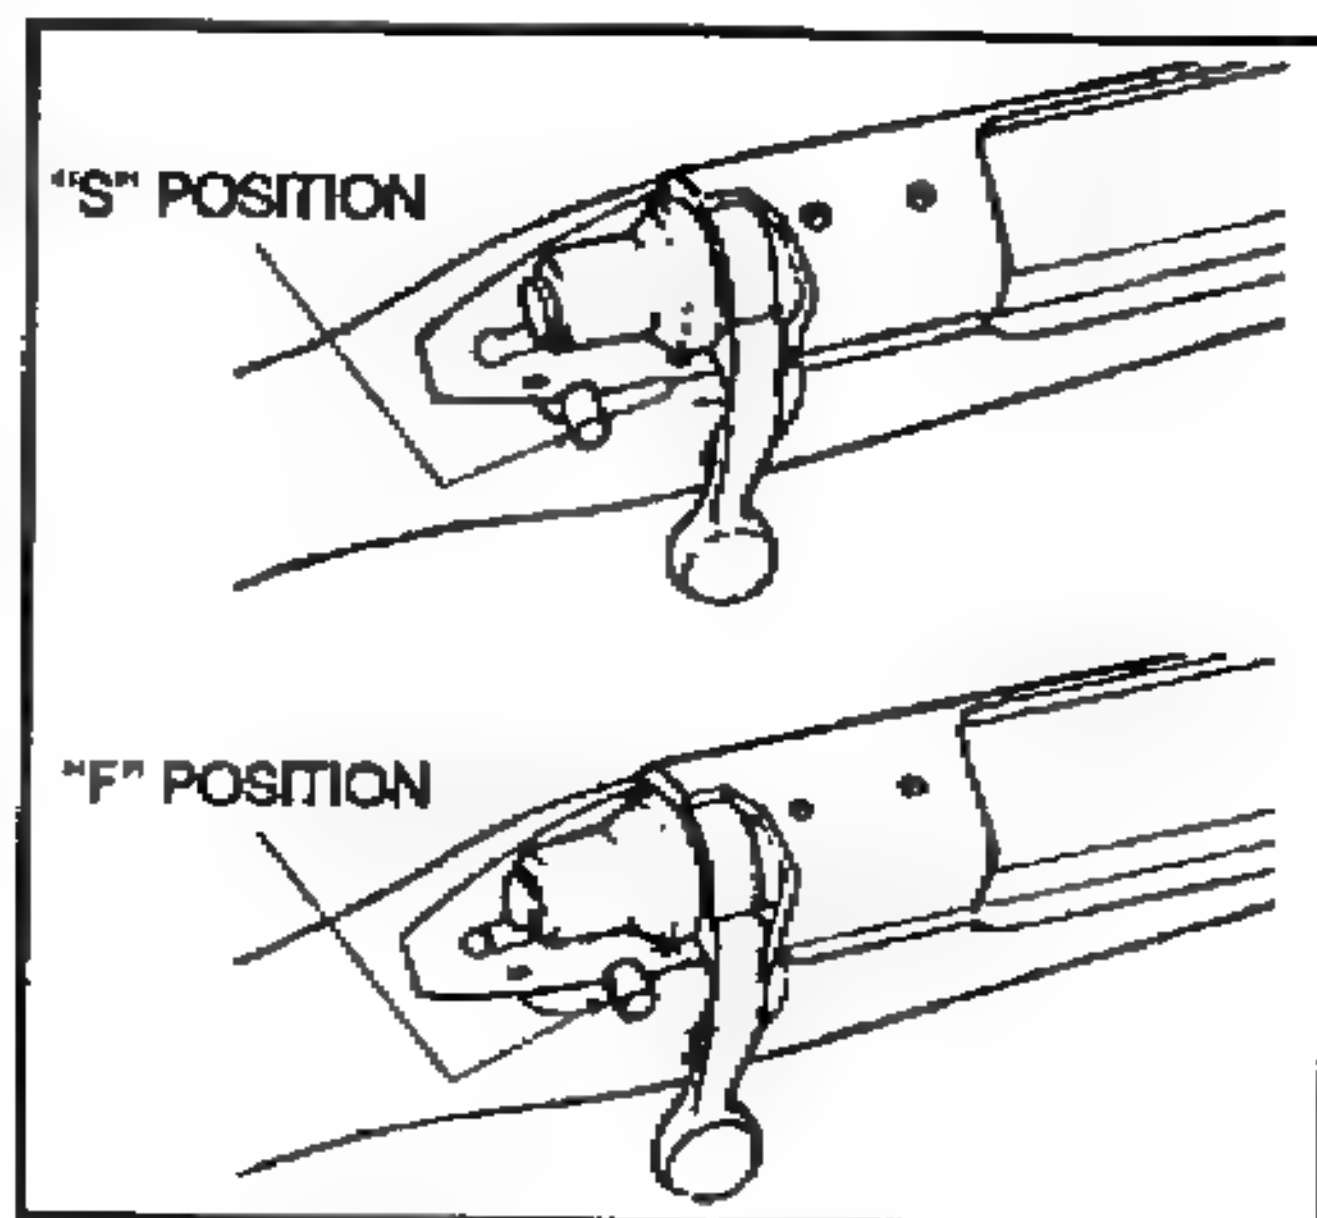

Figure 2-3. Safety.
(1) To engage the safety, place it in the "S" position (Figure 2-3).
(2) Always place the safety in the "S" position before handling, loading, or unloading the weapon.
(3) When the weapon is ready to be fired, place the safety in the "F" position (Figure 2-3).